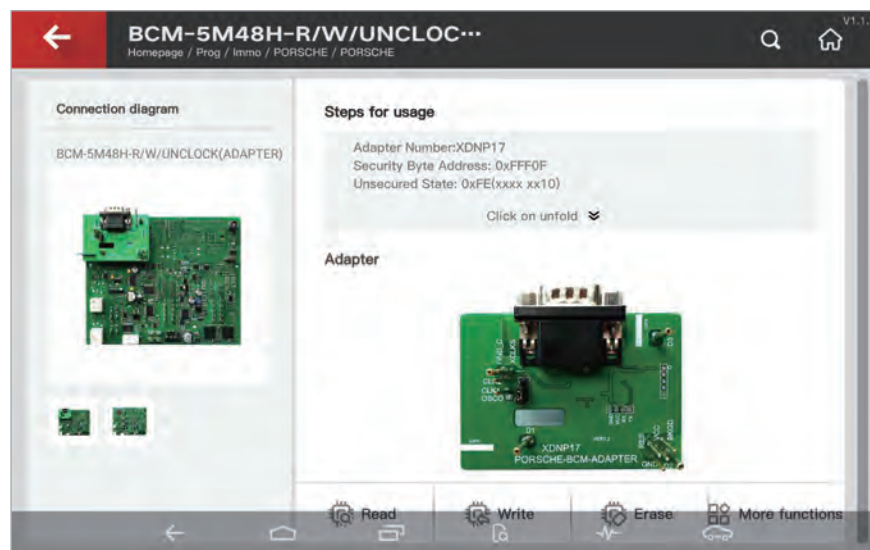

Fig.7.5.1
- ① Connect the device to Porsche BCM adapter(Optional), then clip the adaptor to Porsche BCM module as shown in Fig. 7.5.1.